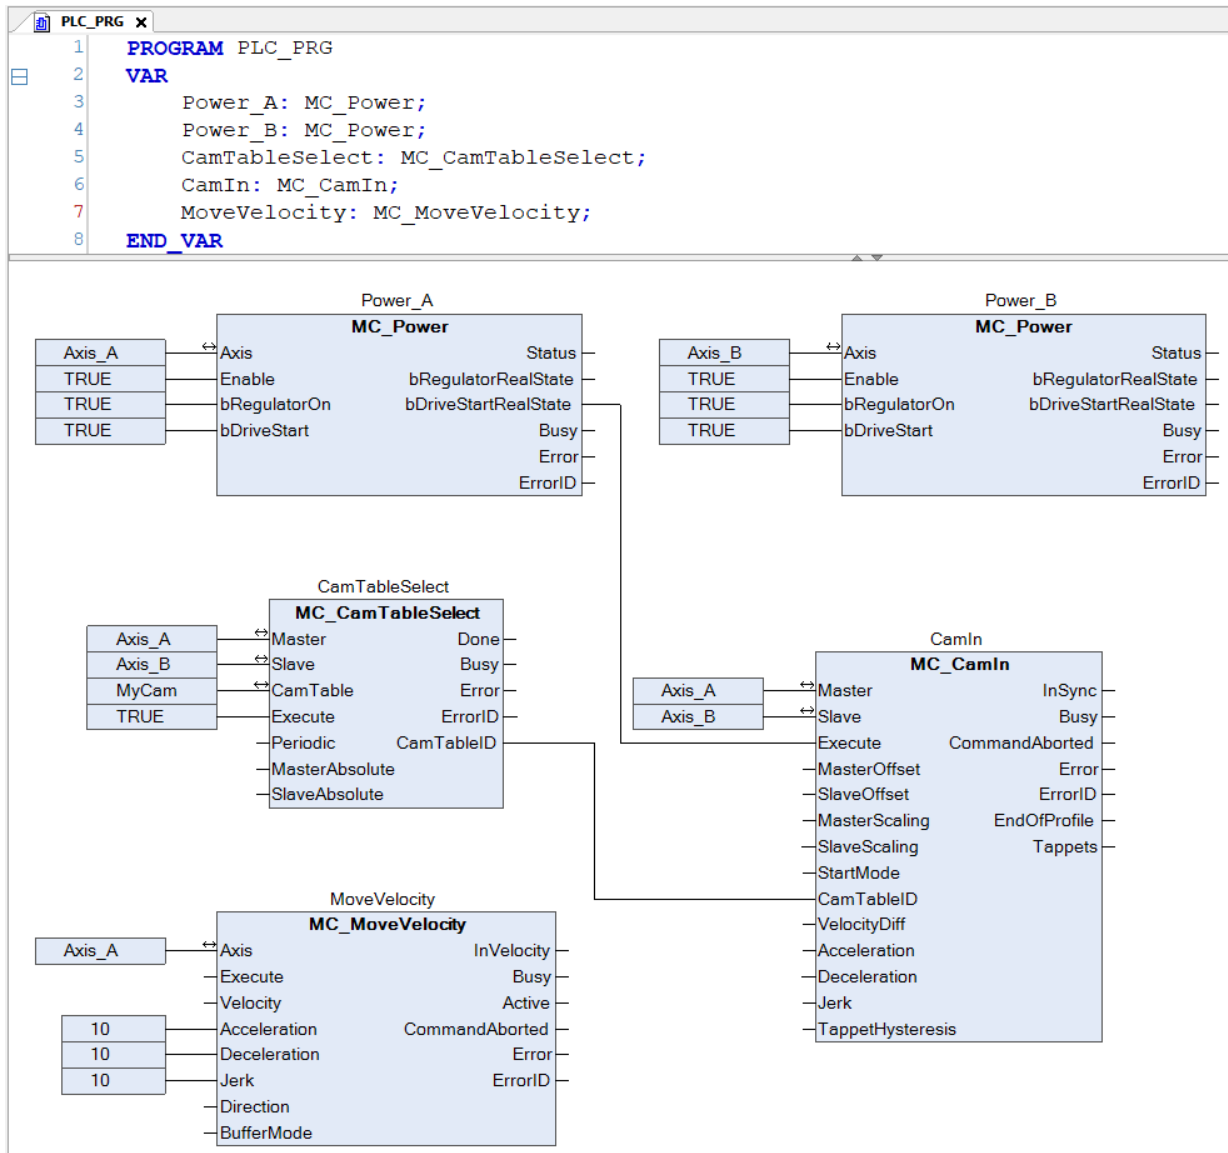

Figure 5.18: Program to execute cam tables.
The default program for executing a cam table is shown in Figure 5.18.
- Declare the function block instances and link the blocks as shown in Figure 5.18